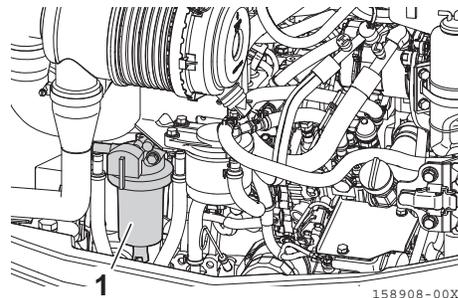
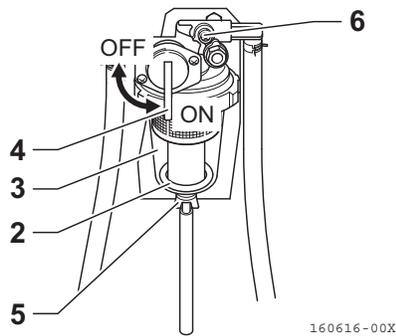

Fig. 3-3
Fig. 3-4
2. Check the water separator (**Fig. 3-3, 1**) to see whether the float (red ring) (**Fig. 3-4, 2**) has sunk down to the cup (**Fig. 3-4, 3**) bottom and a contamination has not mixed into the oil.
If the float (**Fig. 3-4, 2**) has sunk down to the cup (**Fig. 3-4, 3**) bottom, no water has mixed into the oil; if the float (**Fig. 3-4, 2**) is floating in the cup (**Fig. 3-4, 3**), water is mixed into the oil under the float (**Fig. 3-4, 2**).
If the water or the contamination is found in the cup (**Fig. 3-4, 3**), remove it as the procedure below.
3. Turn the fuel cock (**Fig. 3-4, 4**) to the OFF position.
4. Place a container receiving fuel under the hose from the drain cock (**Fig. 3-4, 5**).
5. Loosen the drain cock (**Fig. 3-4, 5**) about 4 turns, and drain the water and contamination.
If no water drips when the water separator drain cock (**Fig. 3-4, 5**) is opened, loosen the air bleeder bolt (**Fig. 3-4, 6**) on the top of the water separator by using a screwdriver to turn it counterclockwise 2 to 3 turns. After draining the water separator, be sure to tighten the air bleeder bolt (**Fig. 3-4, 6**).
6. Hand-tighten the drain cock (**Fig. 3-4, 5**).
7. Wipe off fuel and water adhering to the hose of the drain cock (**Fig. 3-4, 5**).
8. Turn the fuel cock (**Fig. 3-4, 4**) to the ON position.